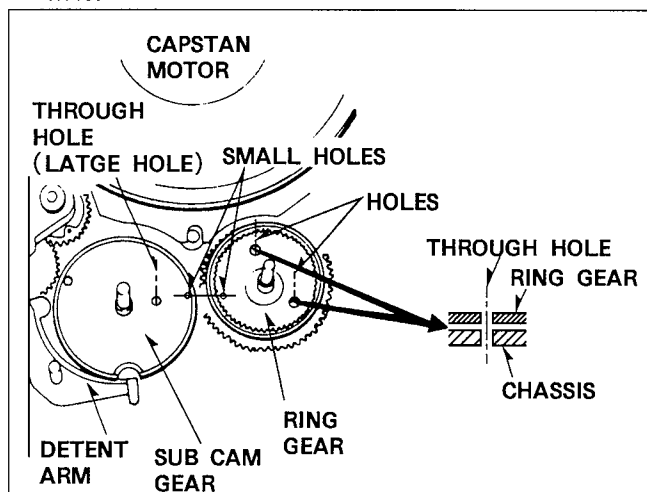

Figure M40
1. Install the Ring Gear so that the two holes on the Ring Gear align with the two holes on the chassis as shown in Figure M40.
2. Install the Sub Cam Gear so that the large hole on Sub Cam Gear aligns with the hole on chassis. Also the small hole (located just outside of large hole) on Sub Cam Gear should align with the hole on Ring Gear as shown in Figure M40.
4. Install the Detent Arm and make sure Detent Arm seats perfectly in detent of Sub Cam Gear as shown in Figure M40.